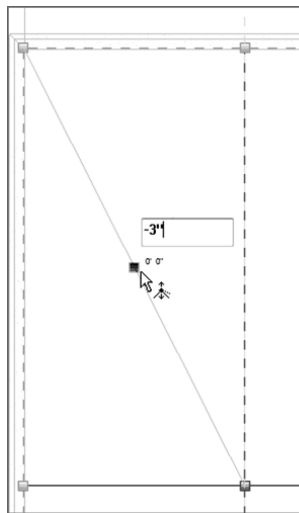

FIGURE 7.14: Click here to taper the roof to this point.
27. Pick the point you just added. A blue elevation appears, as shown in Figure 7.14. Click the elevation, and type -3" (-75 mm).